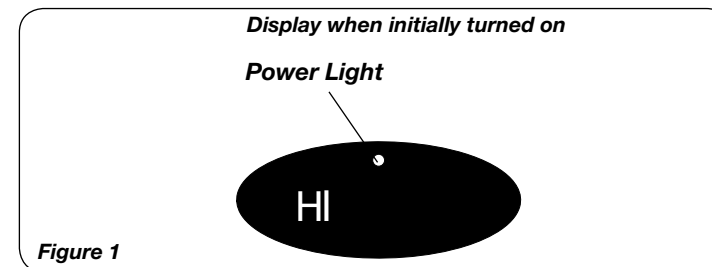

Figure 1
- Upon turning the Heater on, the unit will be in HIGH heat (1500 Watts) (Figure 1)